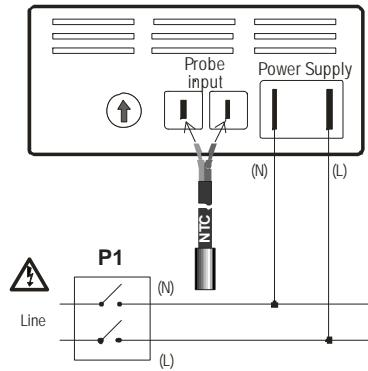

Fig.1
3. INSTALLATION - 230V OR 115V VERSION (FIG.1)
- ⚠ Disconnect the power supply from the board by means of a panel switch, not supplied, (P1 in Fig.1).
- If possible, the manufacturer suggests connecting the phase (L) to the fast-on on the right and neutral (N) to the fast-on on the left as indicated.
5. DISCONNECTION AND PROBE SUBSTITUTION (FIG.1)
⚠ Disconnect the power supply on the board where the instrument is positioned, by means of the panel switch (P1 in Fig.1)